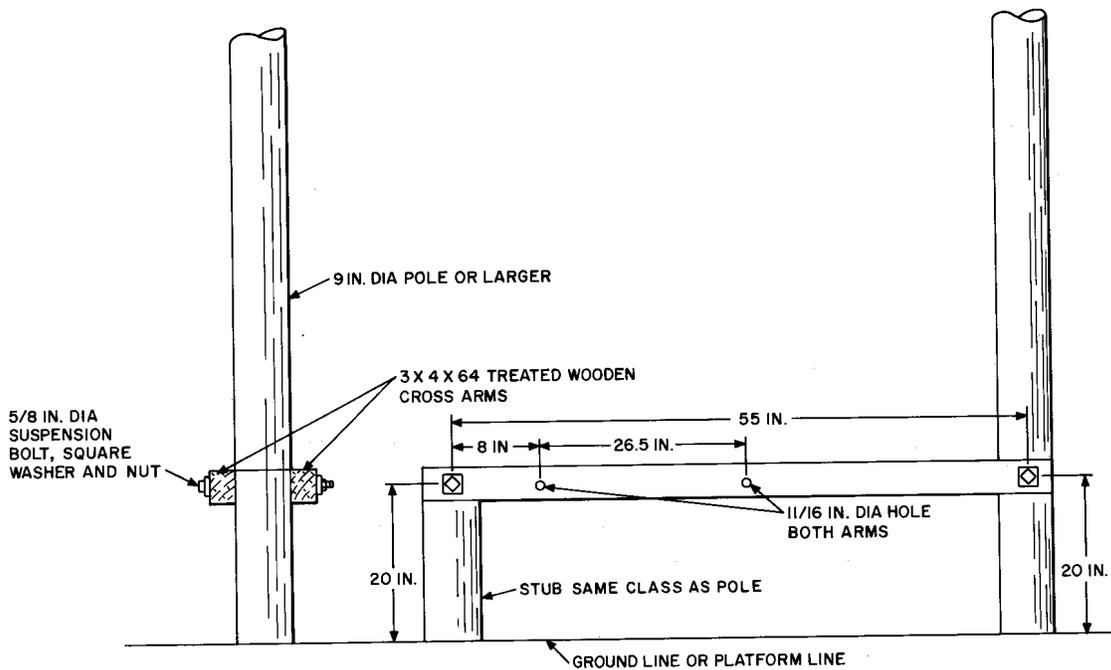

Fig. 9—Fixture for Single Cabinet Installation
3.22 The procedures for constructing a crossarm fixture for a single cabinet (Fig. 9) are as follows:
- (a) Set a 7-foot stub pole, of the same class as the existing pole, 5 feet into the ground at the location shown in Fig. 9.
- (f) Drill 11/16-inch diameter holes for 5/8-inch suspension bolts on 26-1/2 inch centers in the crossarm, as shown in Fig. 9.